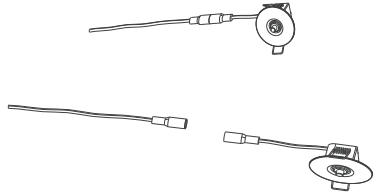

Figure 3-1
1. Disconnect the quick connector of the Remote Round Ceiling Mount Test Switch and Indicator Light (refer to Figure 3-1).